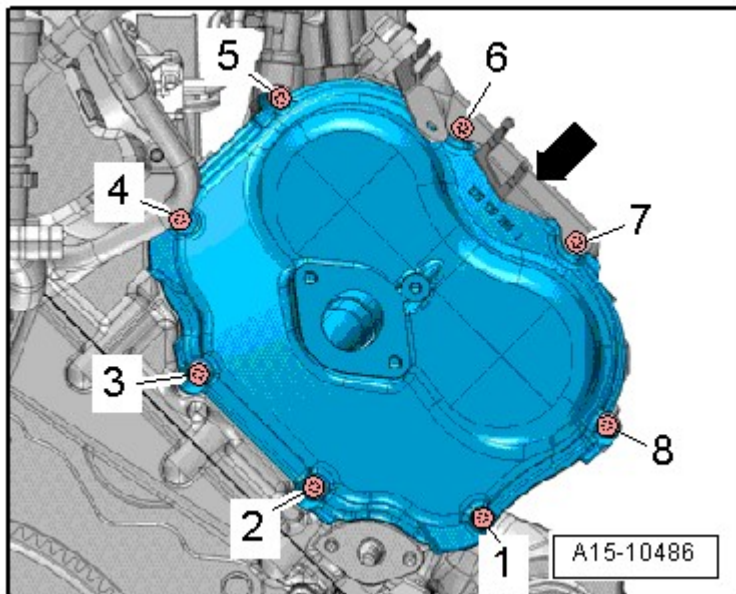

Fig. 16: Identifying Right Timing Chain Cover Tightening Sequence
- Tightening specification and sequence, refer to **Fig. 16**